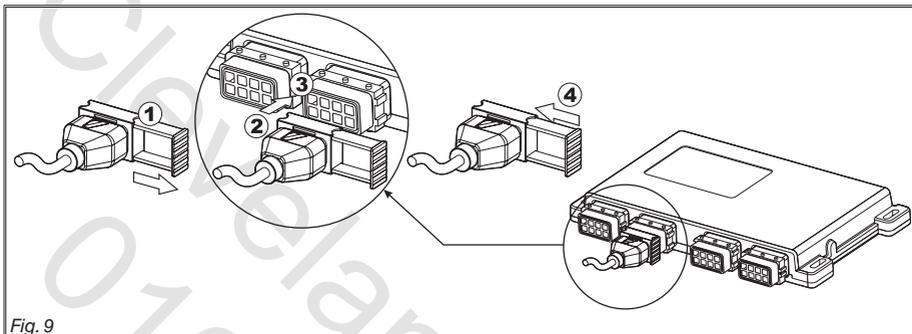

Fig. 9
- Open connector slide (1, fig. 9)
- Connect connector (2) into the socket (3) and then **press gently so not to damage pins.**
- Close cursor slide (4) until it is fully locked.